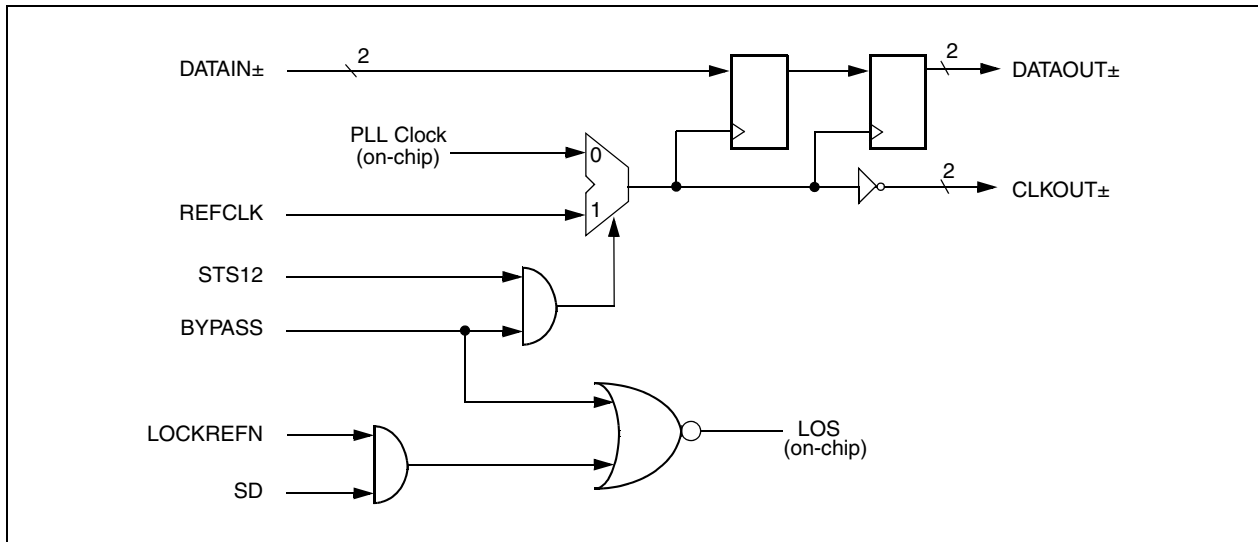

Figure 1. Control Diagram for Signal Detection and PLL Bypass Operation
The VSC8115 has a signal detect (SD) input and a lock-to-reference (LOCKREFN) input. The SD pin is a LVPECL input and the LOCKREFN pin is a LVTTTL input. These two control pins are used to indicate an LOS condition and are connected inside the part as shown in Figure 1 on page 3. If either one of these two inputs goes LOW and BYPASS is LOW, the VSC8115 will enter a Loss of Signal (LOS) state, and will hold the DATAOUT \pm output at logic LOW state. During the LOS state, the VSC8115 will also hold the output clock CLKOUT \pm to within ± 500 ppm of the REFCLK. See Table 1 on page 3.